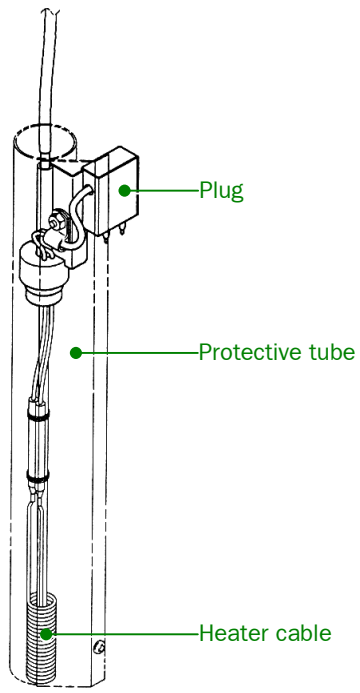

Fig. 5.42 Coolant evaporator (Heater assembly)
3. Wear appropriate protective eyeglasses and gloves (made of leather or the like) so that liquid nitrogen will not permeate. Insert the coolant evaporator (Fig. 5.42) into the tank as follows: